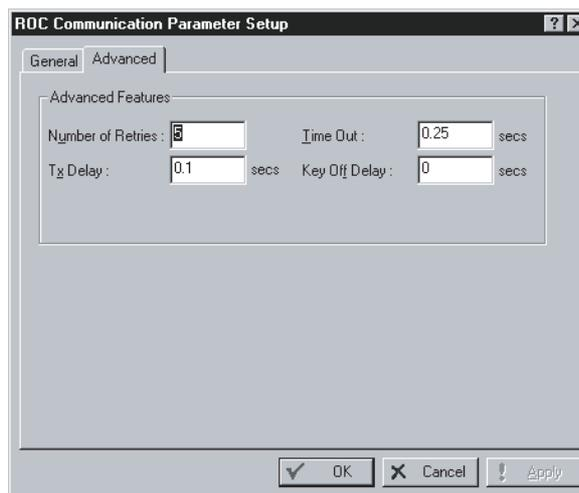

Figura 8-2. ROC Communication Parameter Setup - Advanced
8. Clique na guia **Advanced**. Consulte a Figura 8-2.
10. Clique na guia **Advanced**. Consulte a Figura 8-2.
11. Clique na guia **Advanced**. Consulte a Figura 8-2.